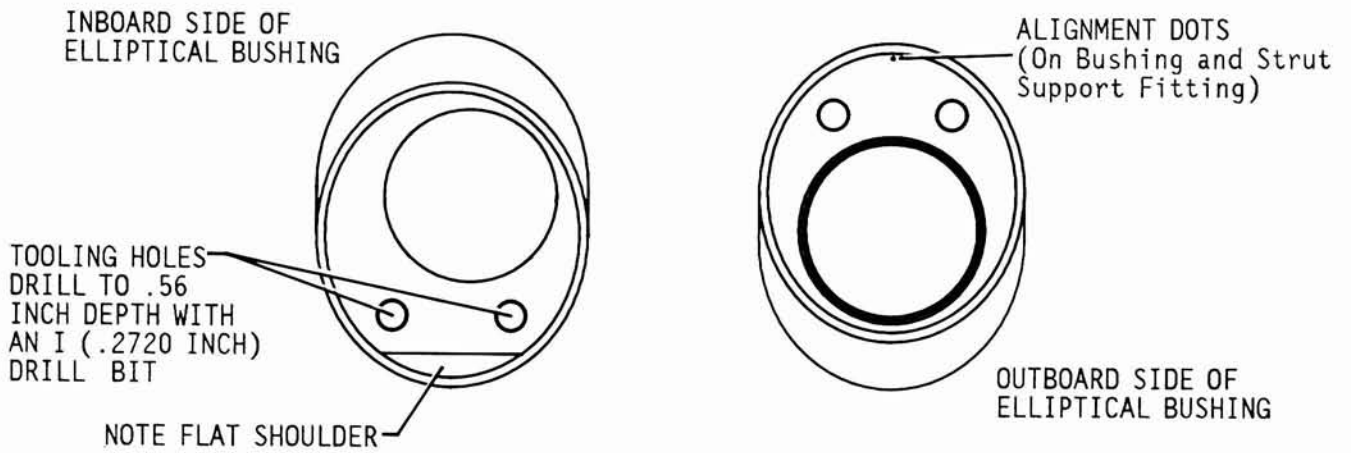
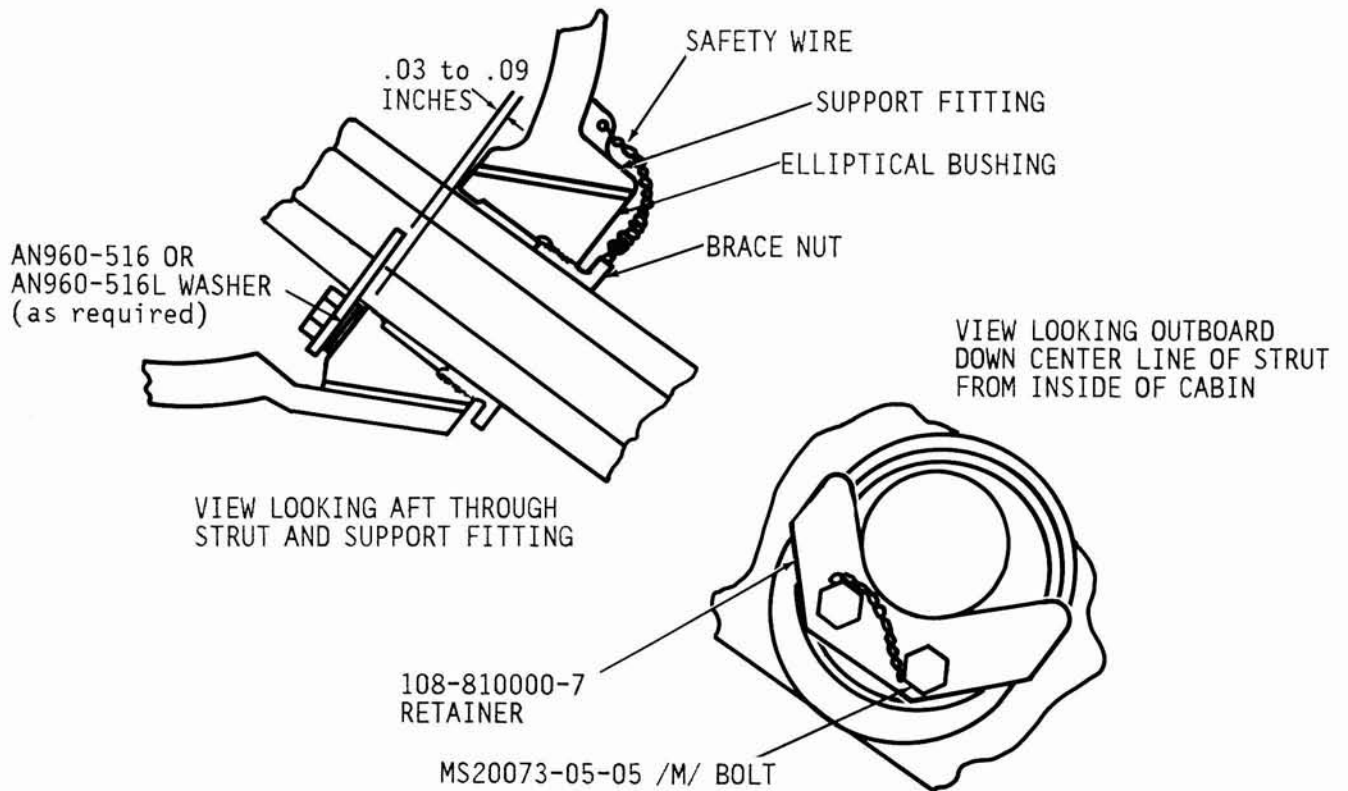

Figure 2.
Figure 3.
7. Locate the two tooling holes in the inboard side of the elliptical bushing. Drill the holes to a depth of .56 inch with an I (.2720 inch) drill bit. Tap the holes to 5/16-24 thread starting with a tapered tap and finishing with a bottoming tap (refer to Figure 2).
9. Reinstall the landing gear strut after the bonding adhesive (if required in Step 4) has cured. Make certain the alignment dots on the elliptical bushing and strut support fitting (see Figure 2) are aligned exactly. Torque the brace nut (see Figure 3) to 125-150 inch pounds with a spanner wrench while holding the bushing in place. The alignment dots **MUST** align after the brace nut is torqued. Safety wire the brace nut, using P/N MS20995C32 safety wire (obtain locally).
10. Install a P/N 108-810000-7 retainer as shown in Figure 3, using two P/N MS20073-05-05 /M/ bolts. Place P/N AN960-516 or P/N AN960-516L washers between the bushing and retainer as required to maintain a spacing of .03 to .09 inch between the retainer and support fitting (refer to Figure 3). Torque the bolts to 56-78 inch-pounds and safety wire.